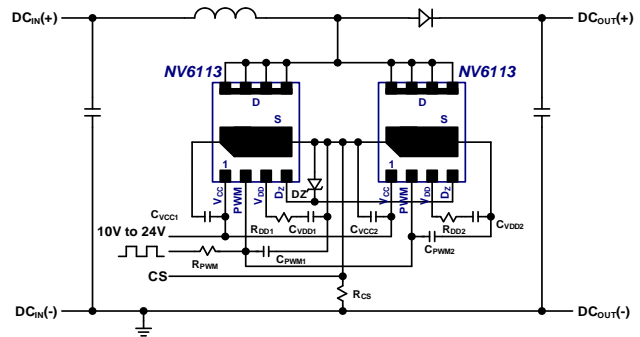

Fig. 25. Boost schematic using two parallel ICs
For some applications it is desirable to parallel ICs in order to reduce conduction losses and temperatures. Two GaNFast power ICs can be connected in parallel in a PFC boost application working in boundary-conduction mode (BCM) only. This configuration is shown in Fig. 25. The paired pins that are connected together include the drain pins (D), the source pins (S), the V_{CC} pins, the PWM pins, and the D_z . A single D_z diode can be shared by both ICs. The V_{DD} pins are not connected together and require separate V_{DD} supply capacitors (C_{VDD1} , C_{VDD2}) and separate turn-on current set resistors (R_{DD1} , R_{DD2}). Each IC should have its own local V_{CC} supply filter capacitor (C_{VCC1} , C_{VCC2}). The PWM pins can have a single filter resistor (R_{PWM}) but separate filter capacitors (C_{PWM1} , C_{PWM2}) should be placed at the PWM pin of each IC. When designing the PCB layout for the two paralleled ICs, the drain and source connections should be made as symmetrical as possible to avoid any parasitic inductance or capacitance mismatch. A proper PCB layout example for paralleling is shown in Section 10.